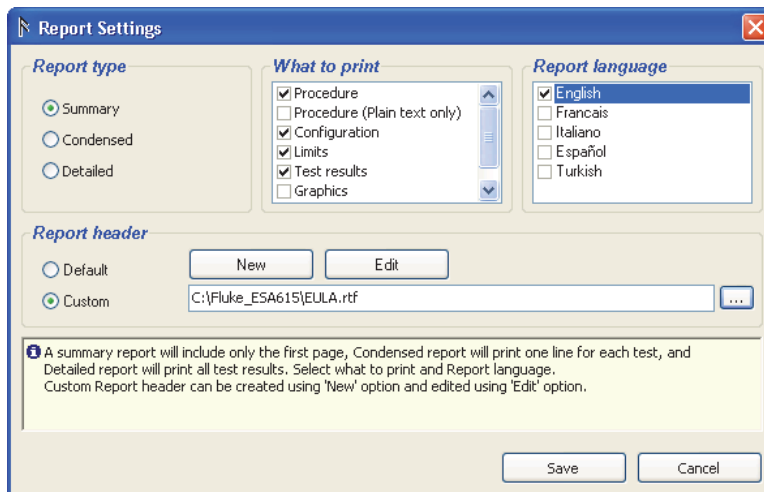

Figure A-1. Test Report Settings Window
1. Select **File | Edit report settings** in the main menu or click . The Report Settings window shown in Figure A-1 opens.